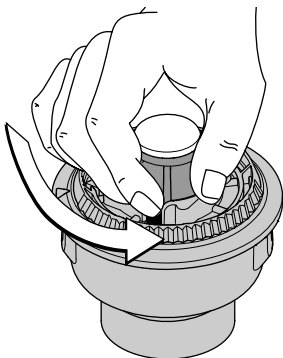

Fig. 23
1. Hold the outer spool, and unscrew the bump knob counterclockwise (Fig. 23).